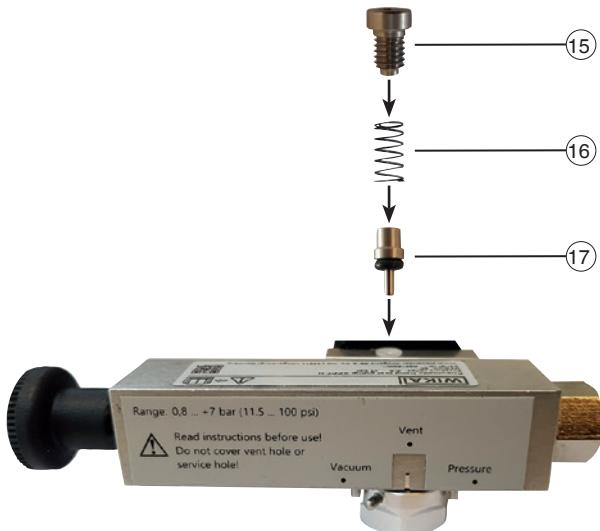

Fig. 1 - Inserting the non-return valve
- ▶ Pay attention to the correct order of the components (see Fig. 1 "Inserting the non-return valve")!
- Pay attention to the correct order of the components (see Fig. 1 "Inserting the non-return valve")!
5. Re-close the opening (18) with the screw (15).